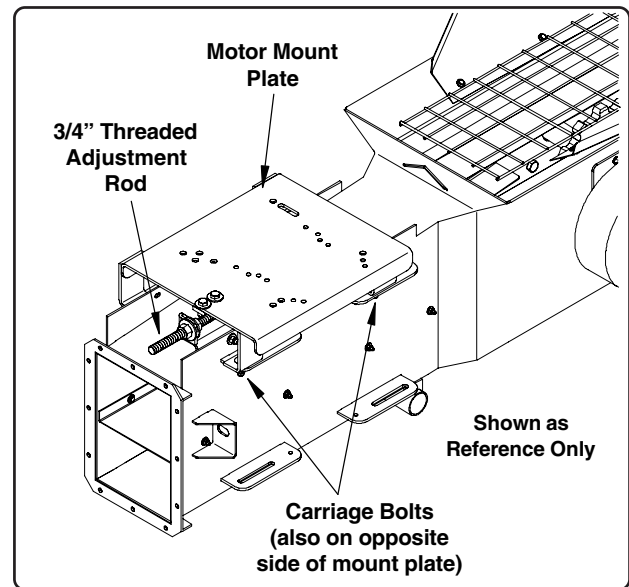

Fig. 12
1. **Electric Models:** Loosen the four (4) carriage bolts securing the feet of the motor mount plate to the brackets on the conveyor housing (See Fig. 12).